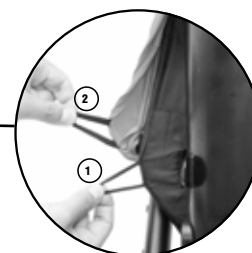

Fig. 5E
- Wrap **elastic band 2** (from canopy) around notches at lower back of seat (Fig. 5E).
- Remove elastic bands from notches at the back of seat (Fig. 5E)